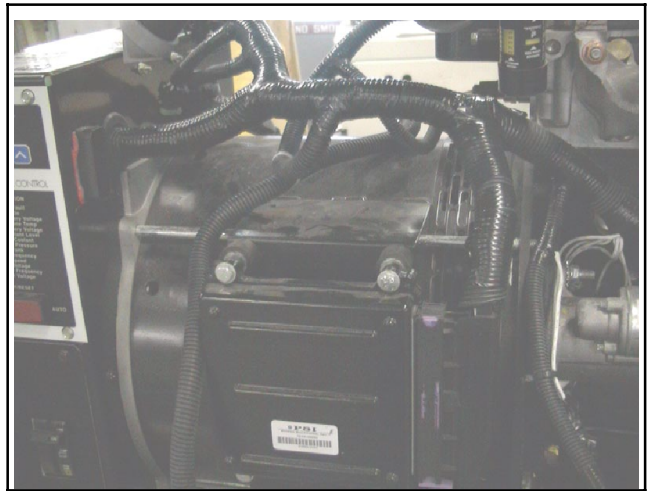
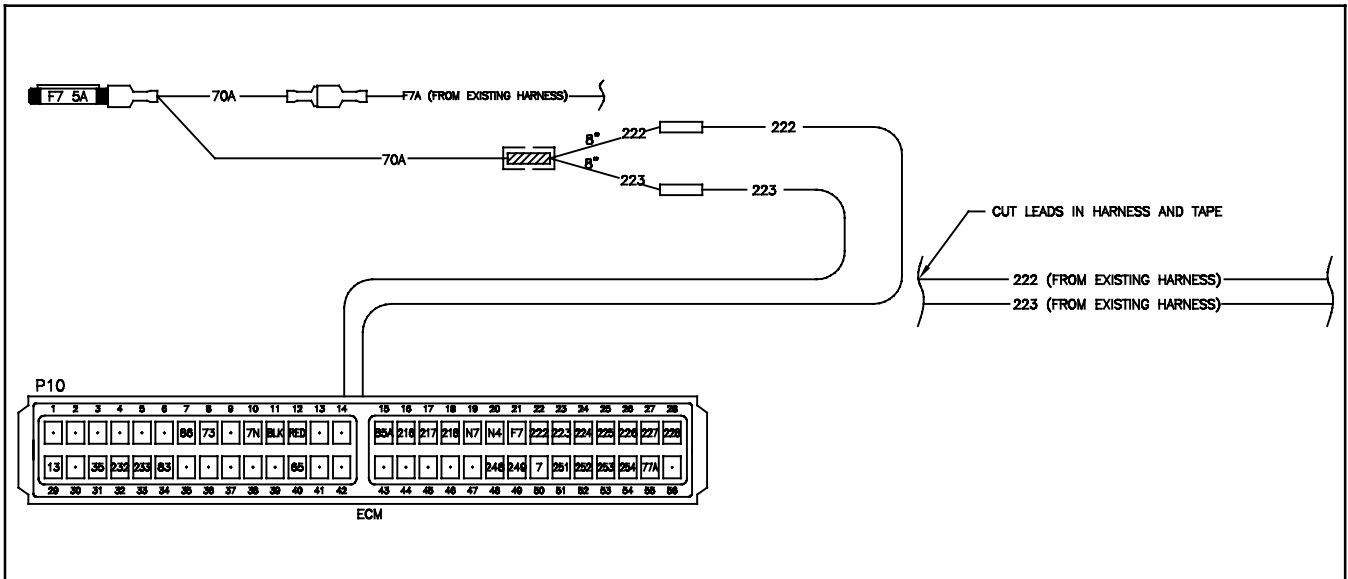

Figure 18 View of Wiring Harness After Installation is Complete
Figure 20 Wiring After Harness Installation
17. See Figure 18 and Figure 20 for wiring after kit installation.